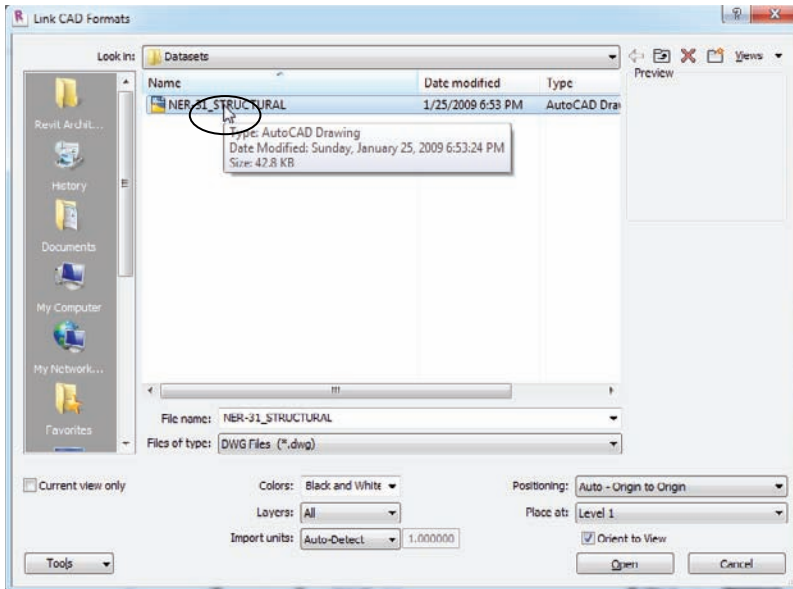

FIGURE 20.21 Configuring the link
14. Set Positioning to Auto - Origin To Origin (see Figure 20.21).